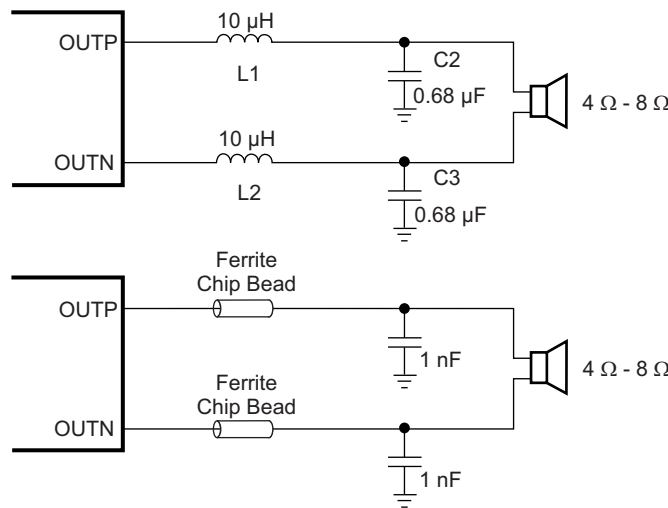

Figure 33. TPA31xxD2 Output Filters
- Output filter — The ferrite EMI filter (see Figure 33) should be placed as close to the output terminals as possible for the best EMI performance. The LC filter should be placed close to the outputs. The capacitors used in both the ferrite and LC filters should be grounded.